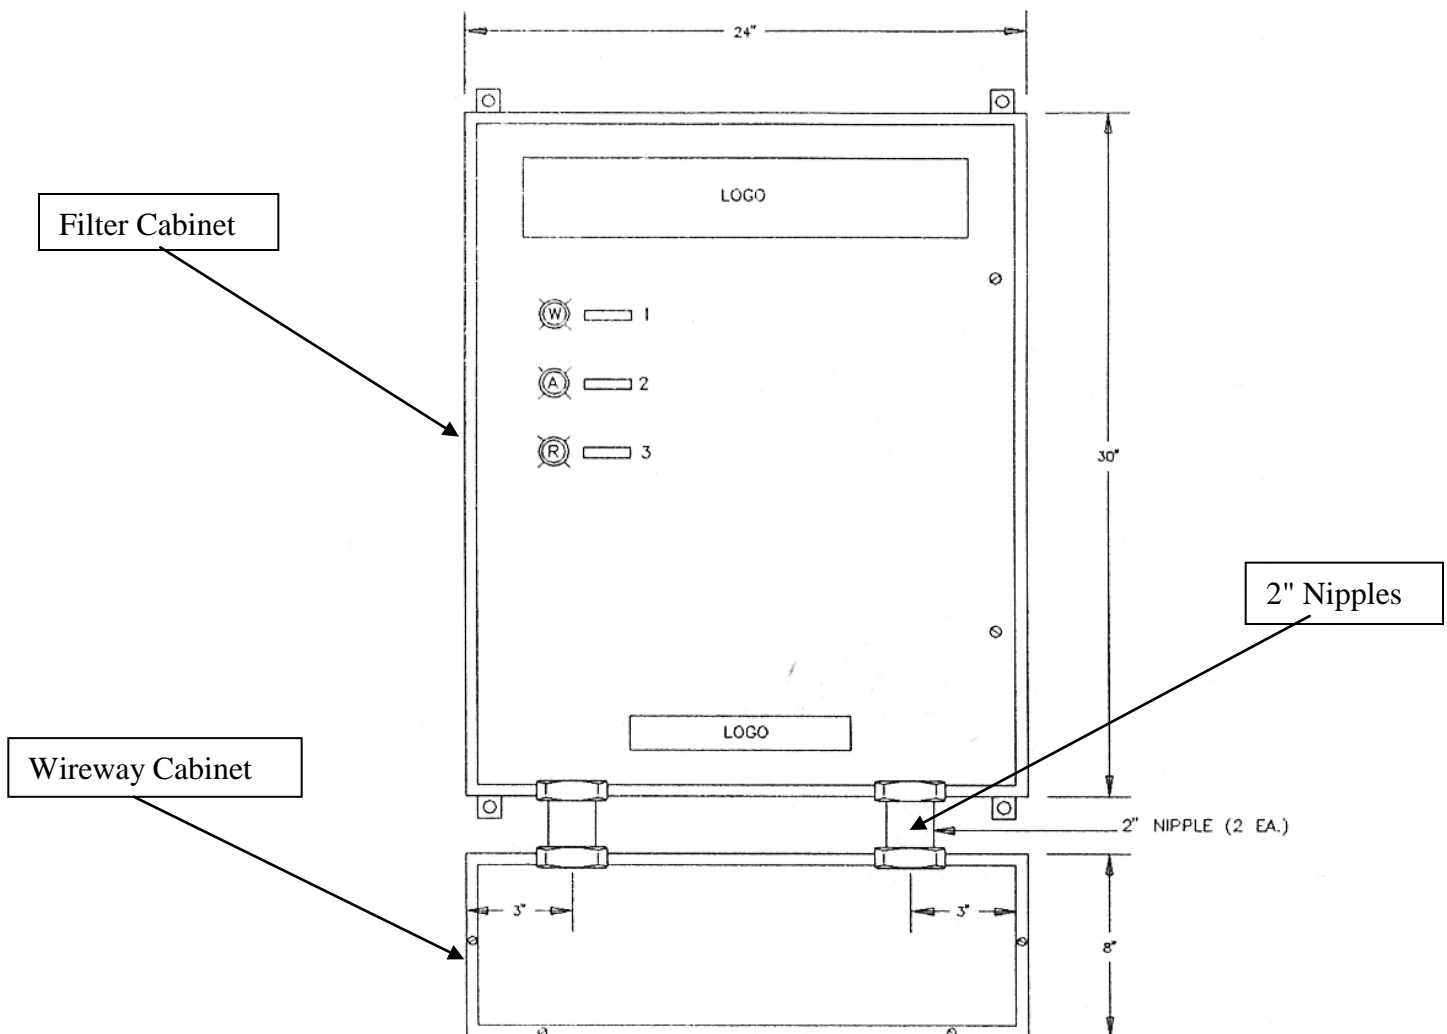

Figure 1
1. The Rad-X Filter includes the Filter Cabinet, the Wireway Cabinet and two, 2" nipples (**Figure 1**).